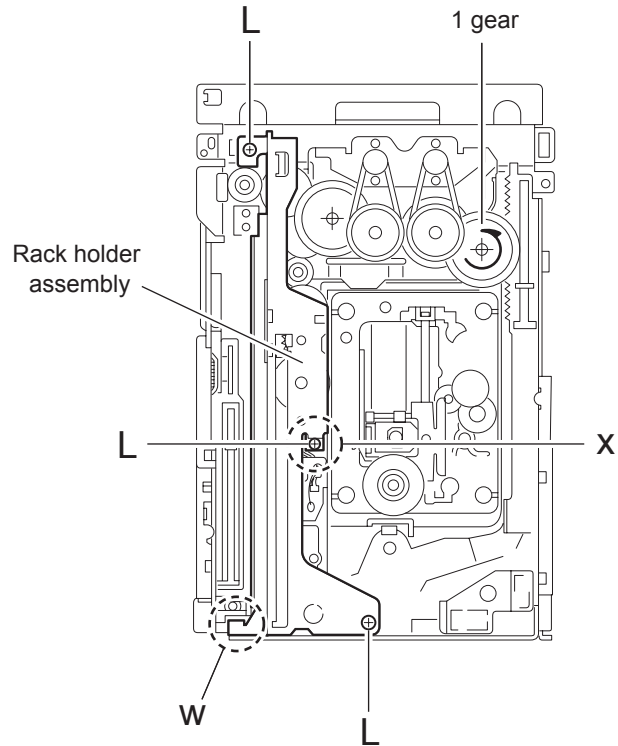

Fig.28
3.2.10 Removing the rack holder assembly/ sensor assembly (See Fig.28 ~ 33)
- Prior to performing the following procedure, remove the tray assembly, side (L)/ side (R) assembly, lifter assembly.